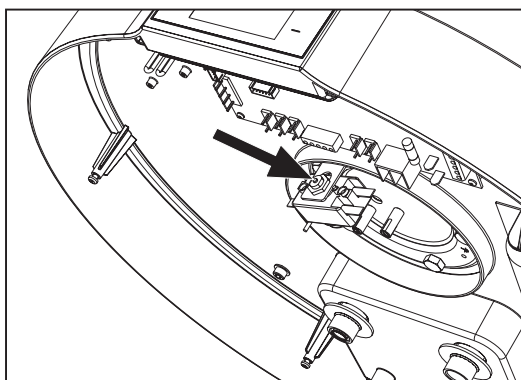

fig. 44- Safety thermostat reset
- Manually reset the tripped safety thermostat (fig. 44). In case of tripping, the central pin of the thermostat comes out by about 2 mm.